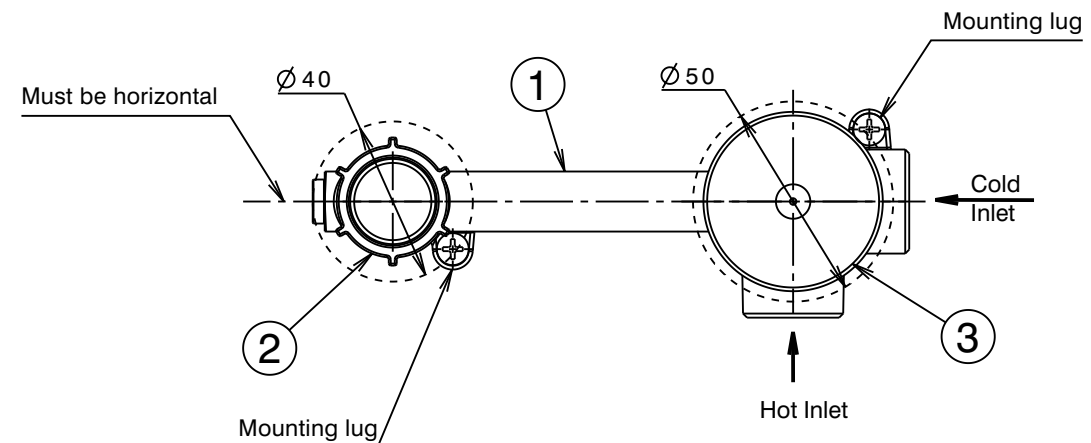

Fig. 2
- 1) Fit mixer body assembly (1) onto a suitable mounting plate or noggin in the wall and secure using screws through the holes in its base. When facing the mixer, the connections should be as follows (Fig.2):